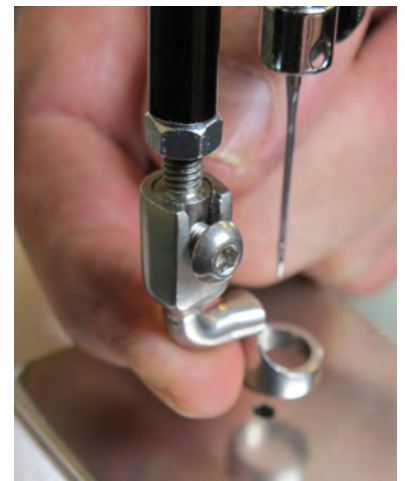

Figure 8
2. Slide the desired foot onto the mount (figure 8). Note that the opening on the side of the foot is lined up with the screw hole. Push the foot up as far as it will go.